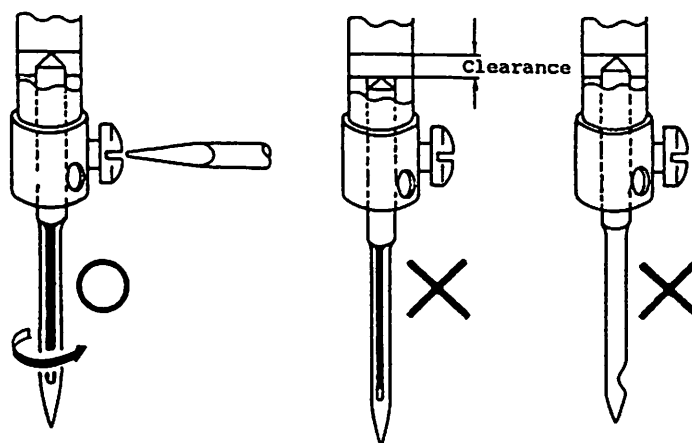

Fig. 7.4
- (1) Before installing or removing the needle, turn off the power so that the sewing machine will not be started up in error.
- (2) Insert the needle into the needle socket as far as it will go.
- (3) With the needle prime groove turned to the front, tighten up the needle set screw to secure the needle.
- (4) For more satisfactory stitching results, it is recommended that the needle be installed and turned by about 10° in the direction of the arrow in Fig. 7.4